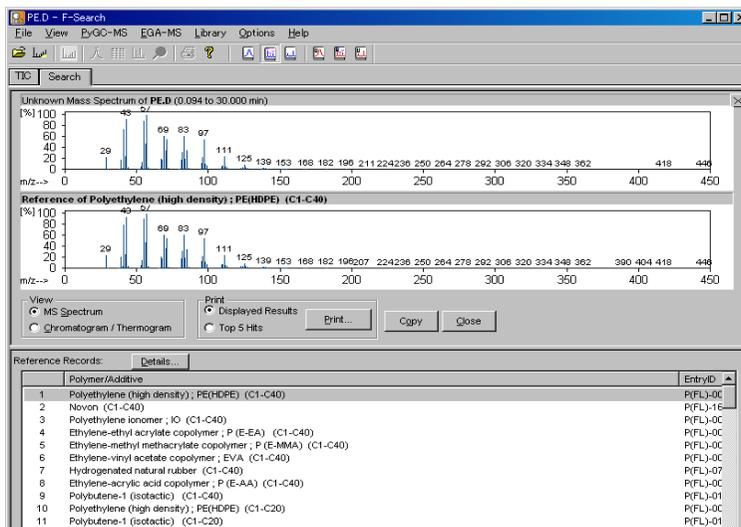

Fig. 5-25 Results of polymer search against Py-GC/MS data
- (6) The library search is performed against the INT-SUM spectrum just created using the library selected in Step 2. Select [PyGC-MS] - [Search] from the menu to view search results shown in Fig. 5-25. Double clicking the right-mouse button on a mass spectrum also produces the same results (see section 5.1.3).